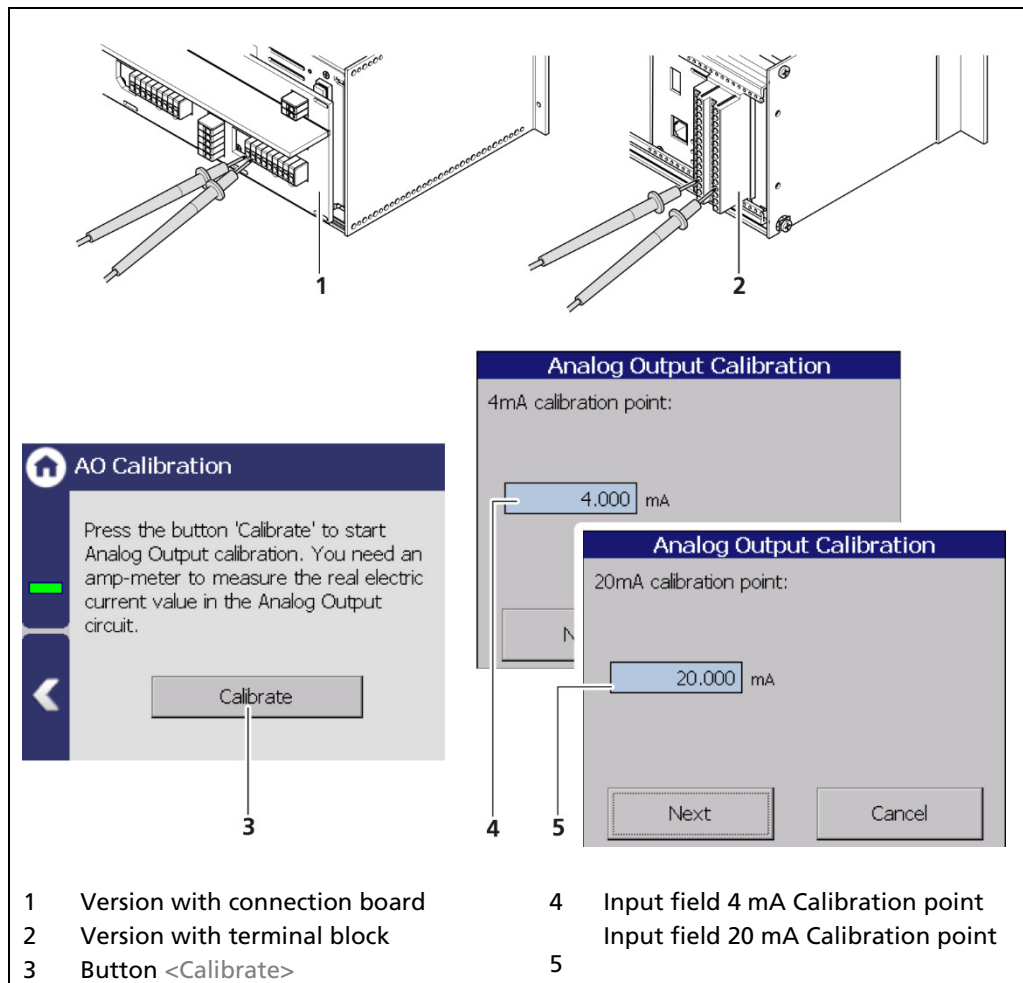

Fig. 90 Analog Output (Calibration)
By clicking on the input fields (Fig. 90, item 1, item 2), the values [mA] for the lower and upper current limit can be set. In addition to the default value of 3.8 mA, the lower current limit can be set to 0 mA in order to switch the current output from 4 ... 20 mA to 0 ... 20 mA.